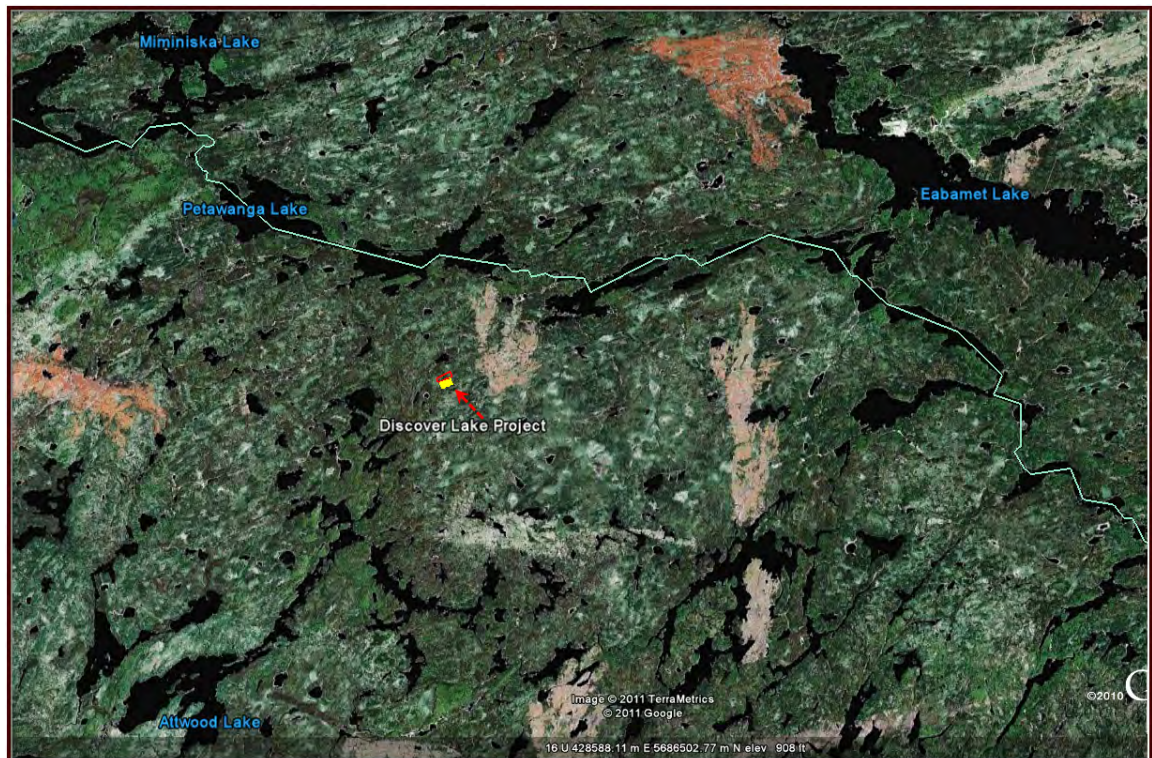

Figure 1: Discovery Lake Project Location Google Map
- FIGURE 1: DISCOVERY LAKE PROJECT LOCATION GOOGLEMAP